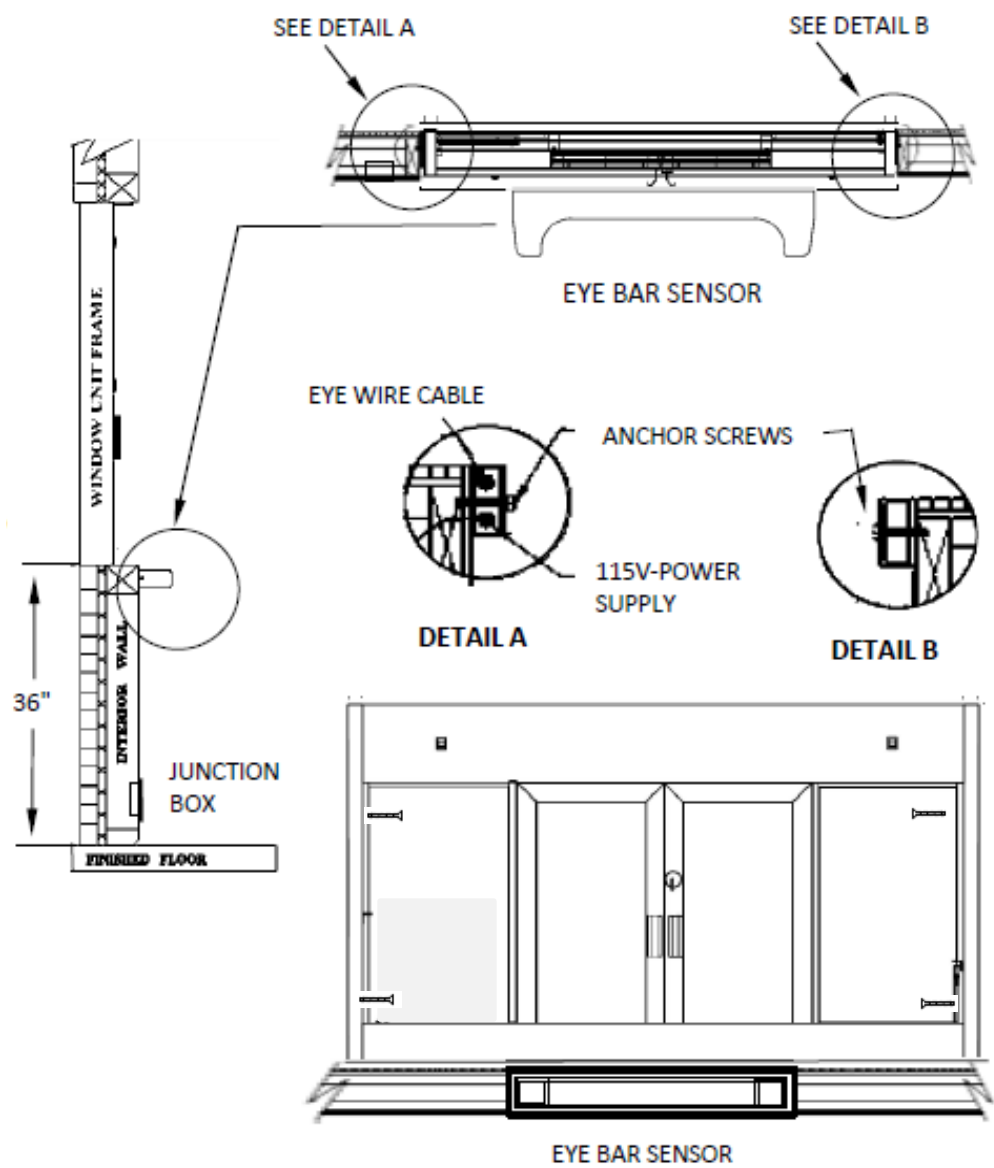

FIGURE 1
Eye set to be mounted directly below the service opening. Bar to be mounted on the wall. (See Fig. 1)
- 2) Anchor through each side jamb at two places approx. 5" at top and bottom of each jamb.(See Fig. 1)